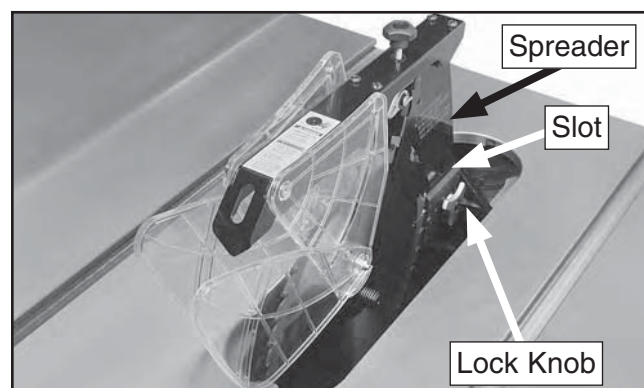

Figure 47. Example of location to secure blade guard.
3. Insert the spreader into the bracket slot and tighten the lock knob shown in **Figure 47** to secure the spreader.